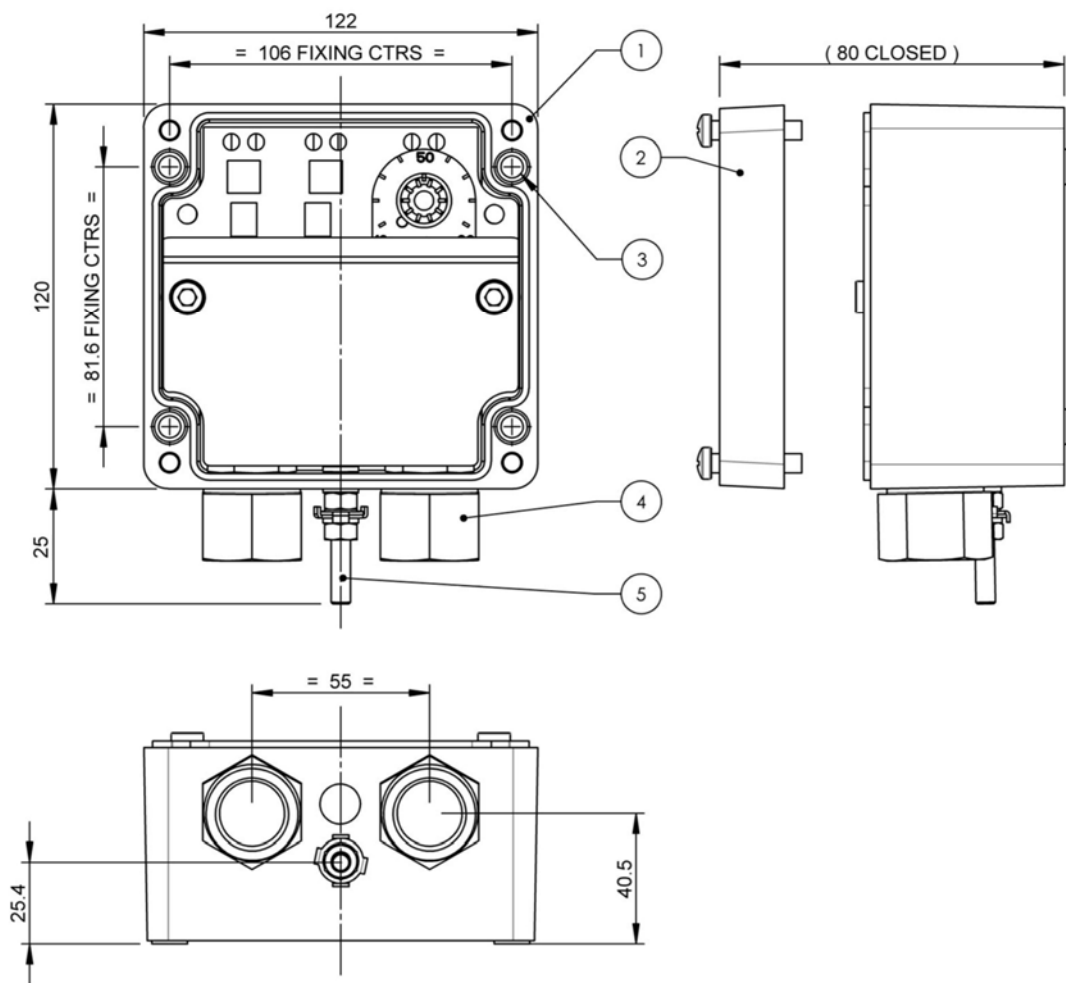

Figure 13. Flow alarm relay box installation
- Gland entry sizes and positions are shown in Figure 13.